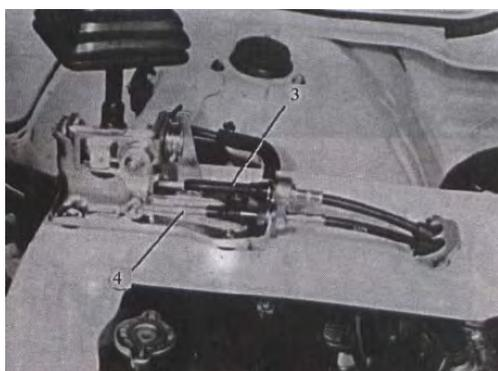

Fig 10-102
(2) Remove centre console box.
(3) disconnect gear shift cable and select cable from gear shift control lever and bracket (FIG.10-102)